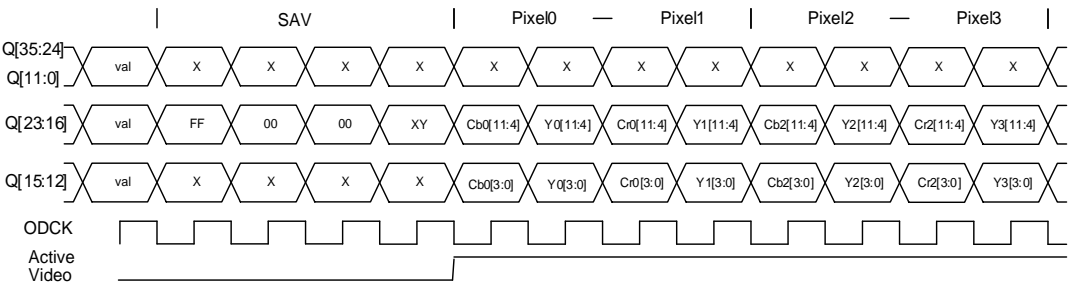

Figure 6.9. YC Mux 4:2:2 Embedded Sync Encoding Timing Diagram
This mode is similar to that on page 57, but with embedded syncs. It is similar to YC 4:2:2 with embedded syncs, but also multiplexes the luminance (Y) and chrominance (Cb and Cr) onto the same pins on alternating pixel clock cycles. Normally this mode is used only for 480i, 480p, 576i and 576p modes. Output clock rate is half the pixel clock rate on the link. SAV code is shown before rise of DE. EAV follows the falling edge of DE. See the ITU-R BT.656 Specification. 480p, 54-MHz output can be achieved if the input differential clock is 54 MHz. Figure 6.9 shows OCLKDIV = 0 and OCKINV = 1.